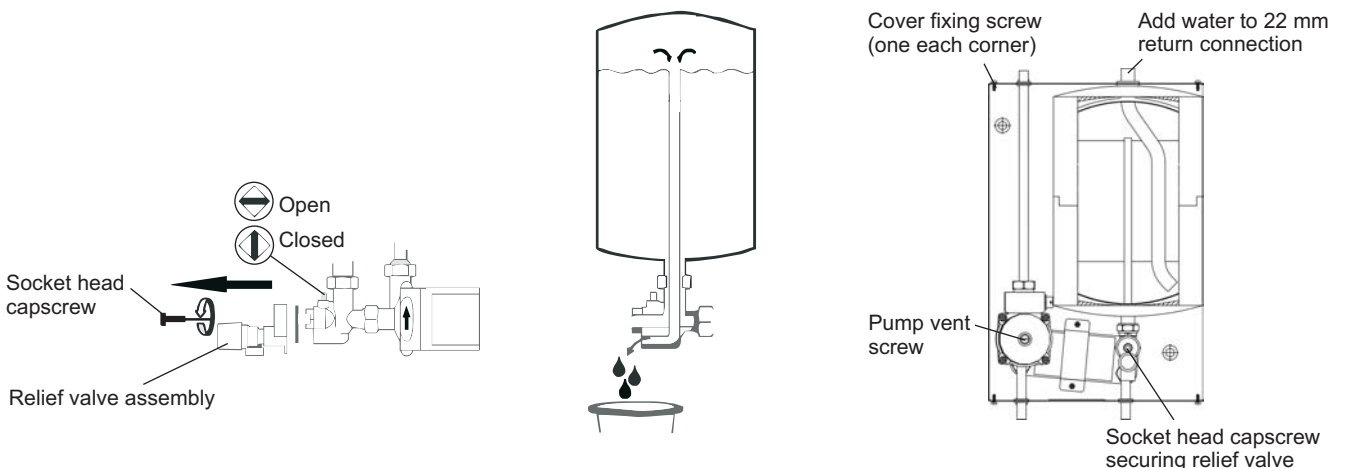

Fig. 20
4. Close the ball valve on the manifold to prevent water from draining out of the cylinder (Fig. 20).
5. Remove the relief valve assembly by undoing the socket head capscrew using a 6mm Allen key (Fig. 20).
6. Carefully fill the drain back unit with 9 litres of water (use a flexible tube or funnel) until water overflows from the bottom hole of the manifold (see Fig. 20). This indicates the correct fill level has been reached.
To drain the drain back unit remove the relief valve assembly and open the ball valve (Fig. 20).
Isolate the electrical supply before removing the casing. Undo the two screws at the top and two screws at the bottom of the casing and pull forwards to remove. Place a bucket under the expansion relief valve and using a 6mm Allen key remove the bolt securing the valve and remove the valve. Using a spanner turn the square shaft located above the expansion relief valve connection until water flows from the outlet and wait for it to stop (see fig 20). Using a 5mm Allen key remove the four bolts securing the pump head and remove the pump, fit the new pump head and seal and refit the bolts making sure not to over tighten them. Refer to Section 5.2 for refilling the DBU and reassemble in reverse order.